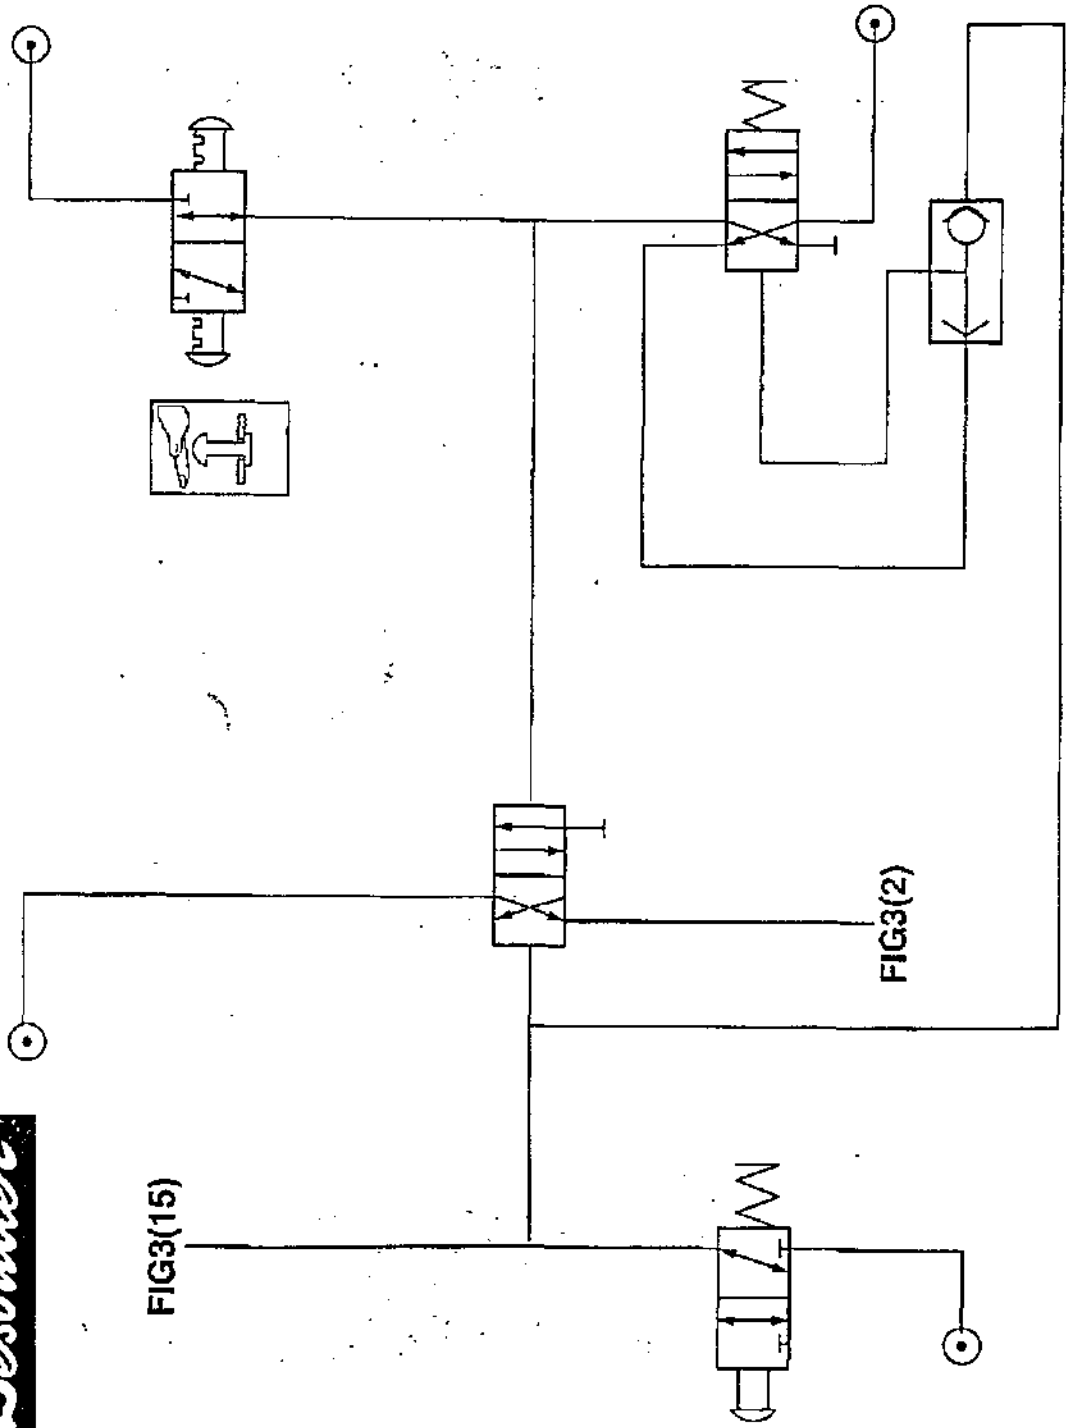

FIGURE 2
**NOTE:** Provision must be made for an Emergency Stop if the tool is used alone or built into a machine. A suitable circuit diagram for manufacturing an Emergency Stop is provided in Figure 2.
- (1) ALWAYS DISCONNECT THE TOOL FROM THE AIR SUPPLY BEFORE ATTEMPTING ANY REPLACEMENT, ADJUSTING, SERVICING OR DISMANTLING.
- (2) ENSURE THAT NO LOOSE ARTICLES OF CLOTHING, LOOSE HAIR, OR CLEARING MATERIAL CAN BE CAUGHT BY THE MOVING PARTS OF THE TOOL.
- (3) ALWAYS ALLOW THE TOOL TO STOP BEFORE REMOVING THE WORK.
- (4) ENSURE THAT THE WORK PIECE IS SECURELY CLAMPED BEFORE COMMENCEMENT OF OPERATION.
- (5) CLEAR ALL LOOSE ITEMS FROM THE VICINITY.
- (6) ENSURE THAT THE TOOL IS SECURELY CLAMPED AROUND THE OUTER CASE BEFORE COMMENCEMENT OF OPERATION.
- (7) ENSURE THAT SAFETY GUARDS ARE FITTED.
- (8) BEWARE OF TOOL OUTPUT. THIS ADVANCES AND ROTATES.
- (9) EYE AND EAR PROTECTION MUST BE WORN WHEN OPERATING THE TOOL.
- (10) DO NOT OPERATE THE TOOL IN EXPLOSIVE ATMOSPHERES.
- (11) WHEN MACHINING HAZARDOUS MATERIALS, PROVISION MUST BE MADE FOR DUST COLLECTION OR SUPPRESSION.
- (12) ENSURE THAT AN EMERGENCY STOP IS PROVIDED FOR THE TOOL, WHETHER USED ALONE OR BUILT INTO A MACHINE. A SUITABLE EMERGENCY STOP CIRCUIT IS DETAILED IN FIGURE 2.